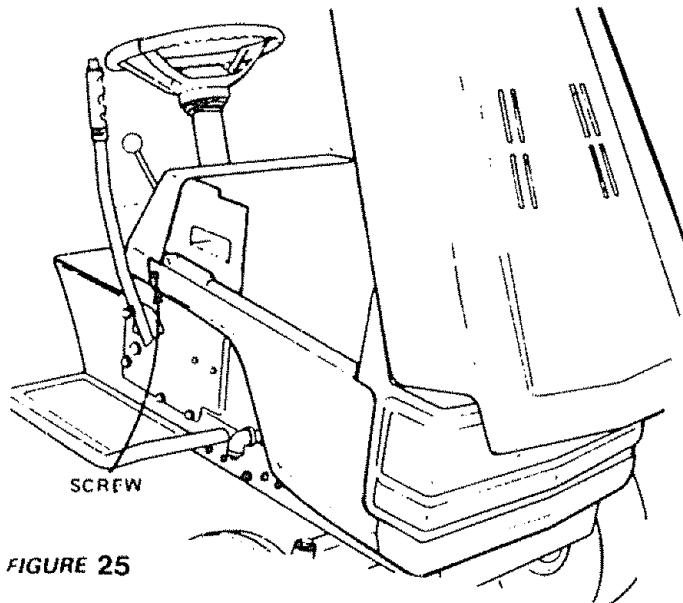

FIGURE 25
- To remove hood, grill and side panels, raise hood and loosen one screw on each side panel. (This screw remains in the side panel) (Fig. 25).